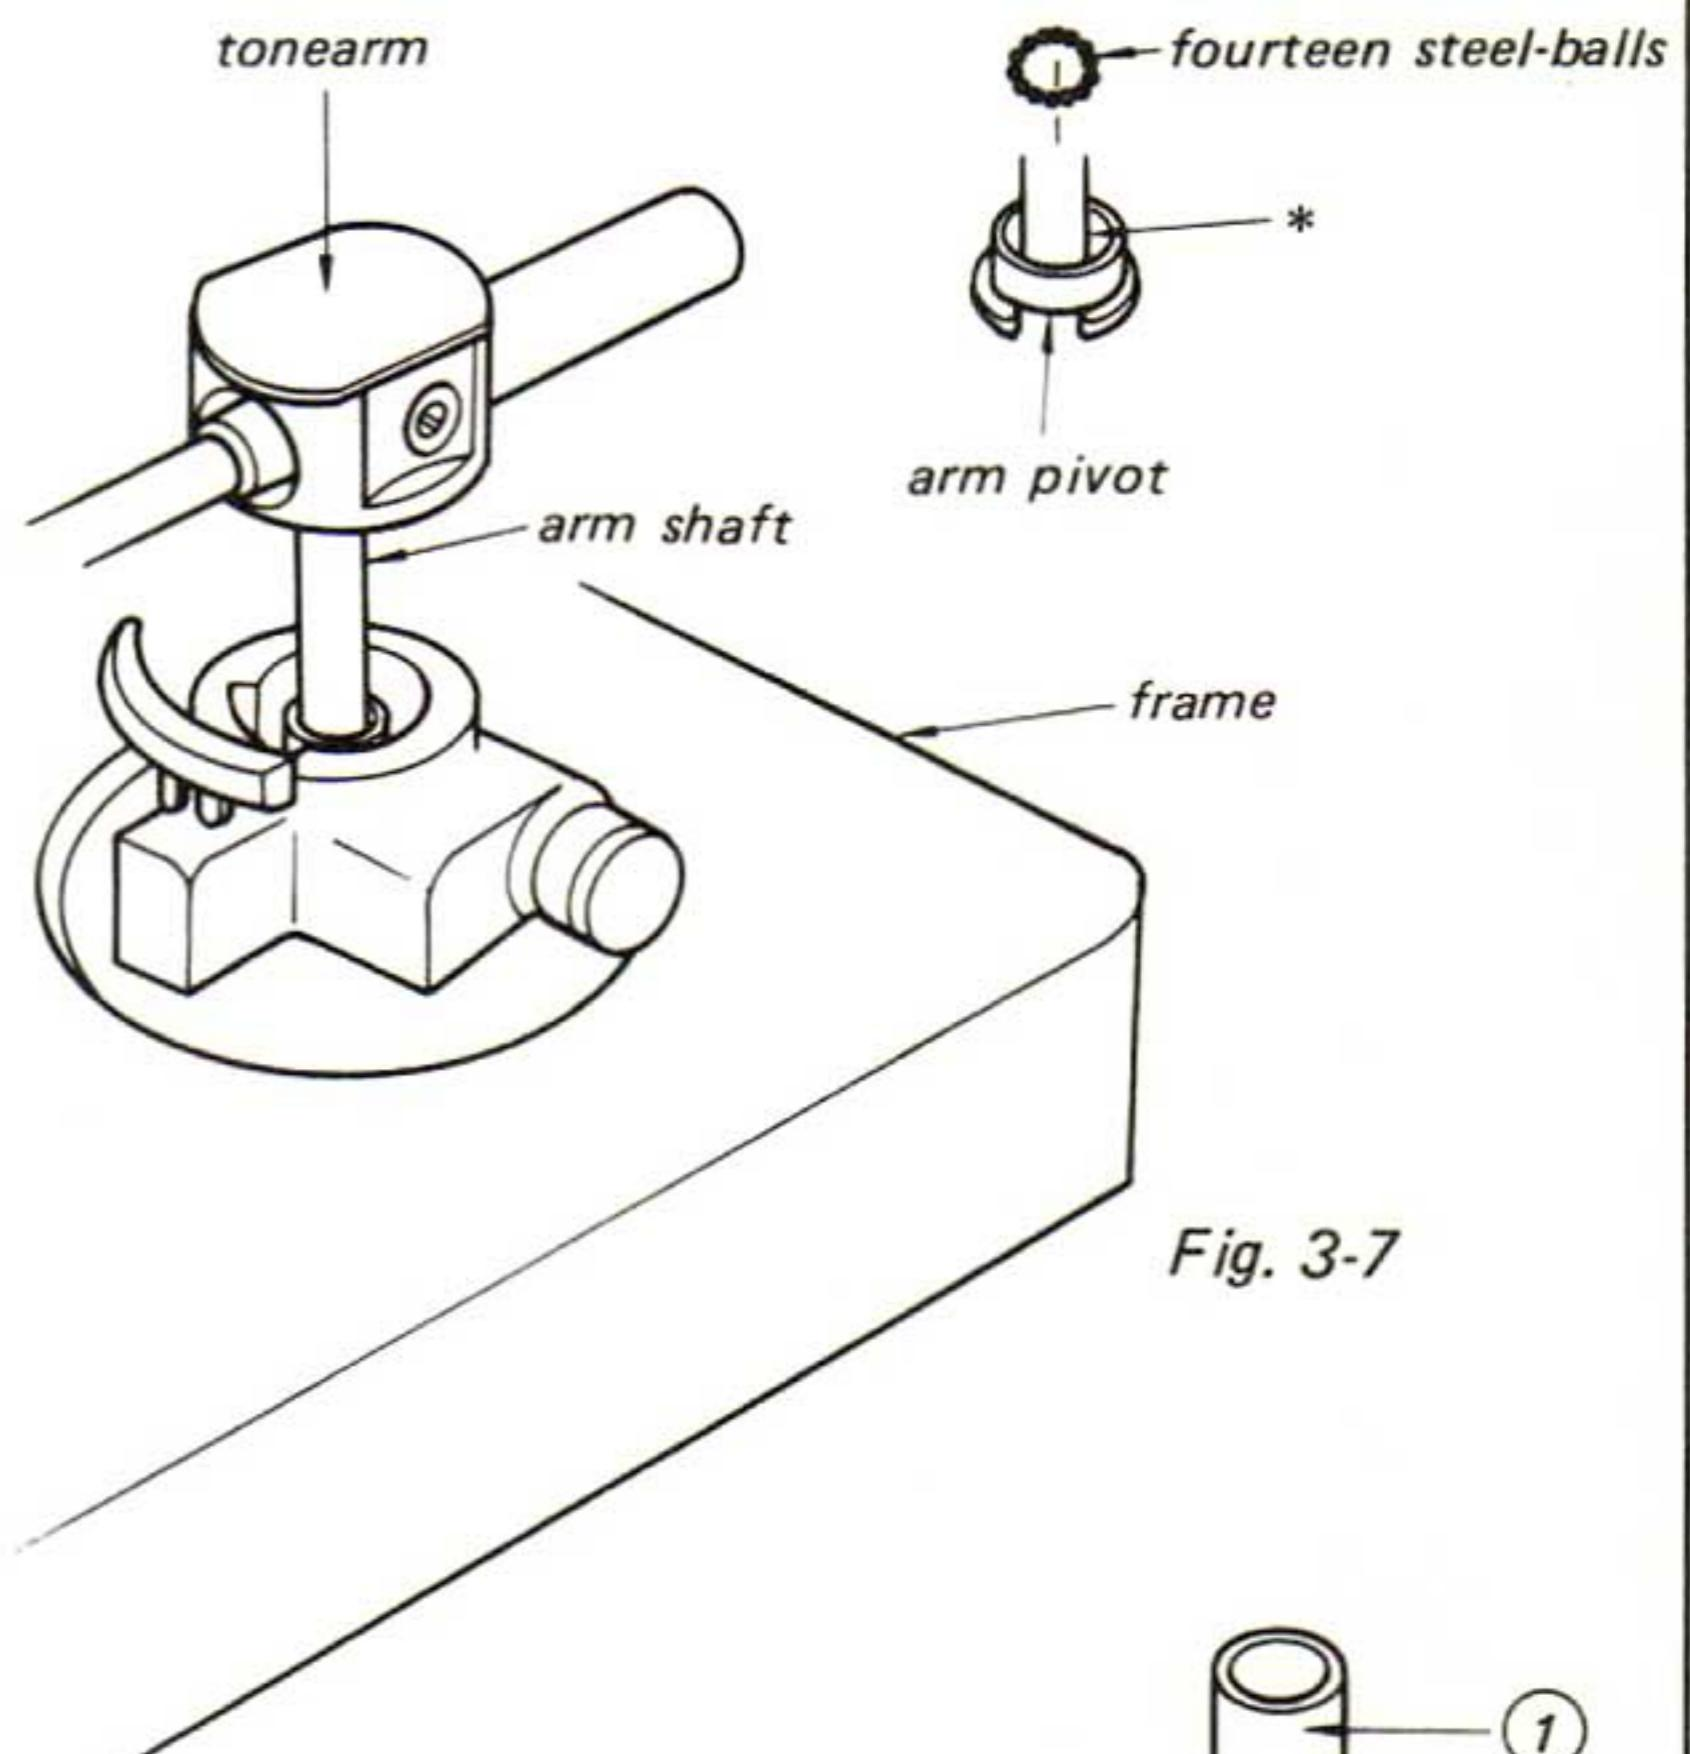

Fig. 3-7
1. Clean the portion of the arm pivot marked by * in Fig. 3-7 with an alcohol-moistened swab.